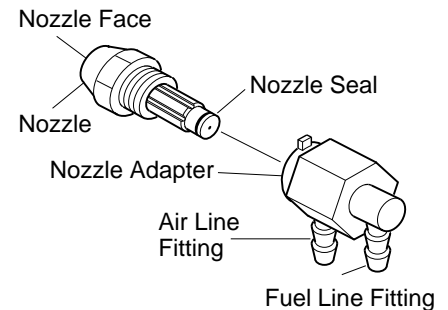

Figure 13 - Nozzle and Nozzle Adapter
4. Turn nozzle adapter 1/4 turn to left and pull toward motor to remove (see Figure 13).